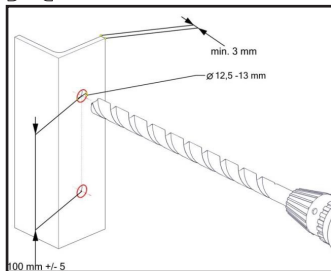

Fig. 3
- +En caso de instalar el PAF 150 en una superficie de acero, esta debe tener un espesor superior a 3 mm. Taladro dos agujeros de 12,5-13 mm de diámetro espaciados a 100±5mm. (Fig. 3). La resistencia de la estructura de acero donde se vaya a instalar el punto de anclaje se debe calcular
+In case of installing the PAF 150 on a steel surface, this must have a thickness greater than 3mm. Drill two holes 12.5-13 mm in diameter spaced at 100±5mm. (Fig. 3). The strength of the steel structure where the anchor point is to be installed must be calculated and must not be less than 12 kN. Fix the PAF 150 anchor point in the drilled holes